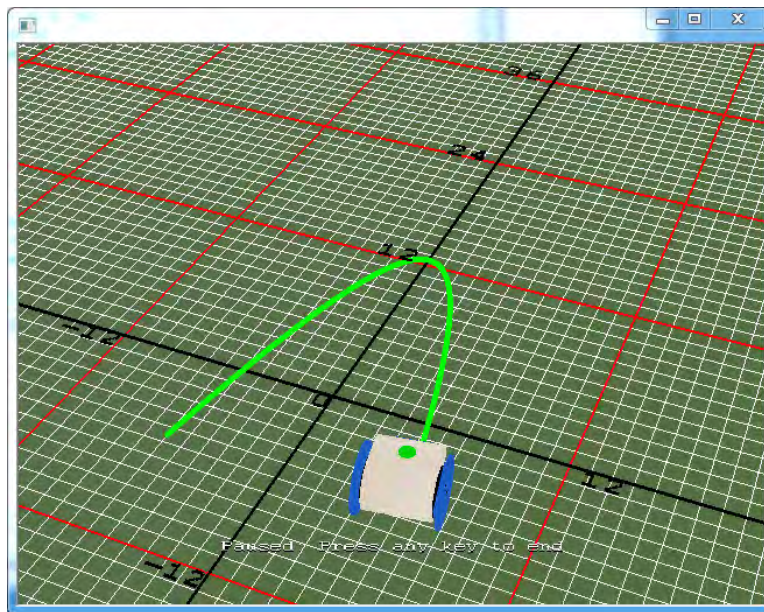

Figure 9.15: The RoboSim scene with the robot trajectory for program `drivexytofunc2.ch`.
1. Write a program `drivexytoexpr2.ch`, using the member function **drivexyToExpr()**, based on Program 9.5, that drives a Linkbot-I along the trajectory of a parabola from $(-6, -5.5)$ to $(6, -5.5)$, as shown in Figure 9.15. The parabola is defined by the formula $y_1 = -0.5(x + 5)(x - 5)$. This parabola will open downward, with vertex at $(0, 12.5)$. Use the **CPlot** member functions **axisRange()**, **ticsRange()**, and **expr()** to generate a plot of the Linkbot-I's trajectory.
2. Write a program `drivexytofunc2.ch` using the member function **drivexyToFunc()**, based on Program 9.6, that drives a Linkbot-I along the trajectory of a parabola from $(-6, -5.5)$ to $(6, -5.5)$, as shown in Figure 9.15. Use the **CPlot** member function **func2D()** to generate a plot of the Linkbot-I's trajectory.